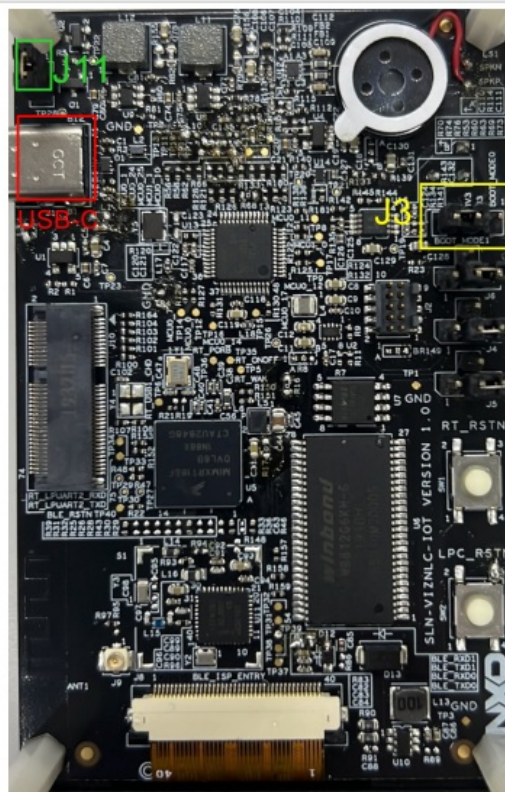

Figure 35. Power on SLN-VIZNLC-IOT kit
- **Note:** LPC845 controls the power supply of RT106F and K32W061. Therefore, during the debug stage, we can bypass it by connecting J11 jumper as shown in the green highlighted box in Figure 35.